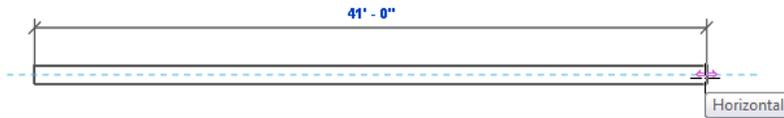

Figure 3-33 The sketched horizontal wall with its controls
6. Move the cursor to the right until the temporary dimension shows a value more than 40'- 0" (12192 mm), as shown in Figure 3-33. Click at this location as the endpoint of the wall segment and press ESC twice; the wall is created. Note that, if the dimension is not displayed, you need to click on the created wall to display the dimension. Press ESC.